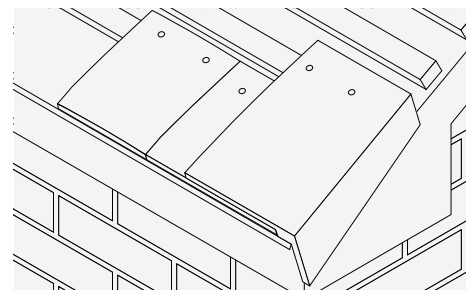

Fig. 8 - Eaves course
- 5 Fix the eaves cloak verge tile with 2 No. 38mm x 2.65mm aluminium nails (Fig. 8).